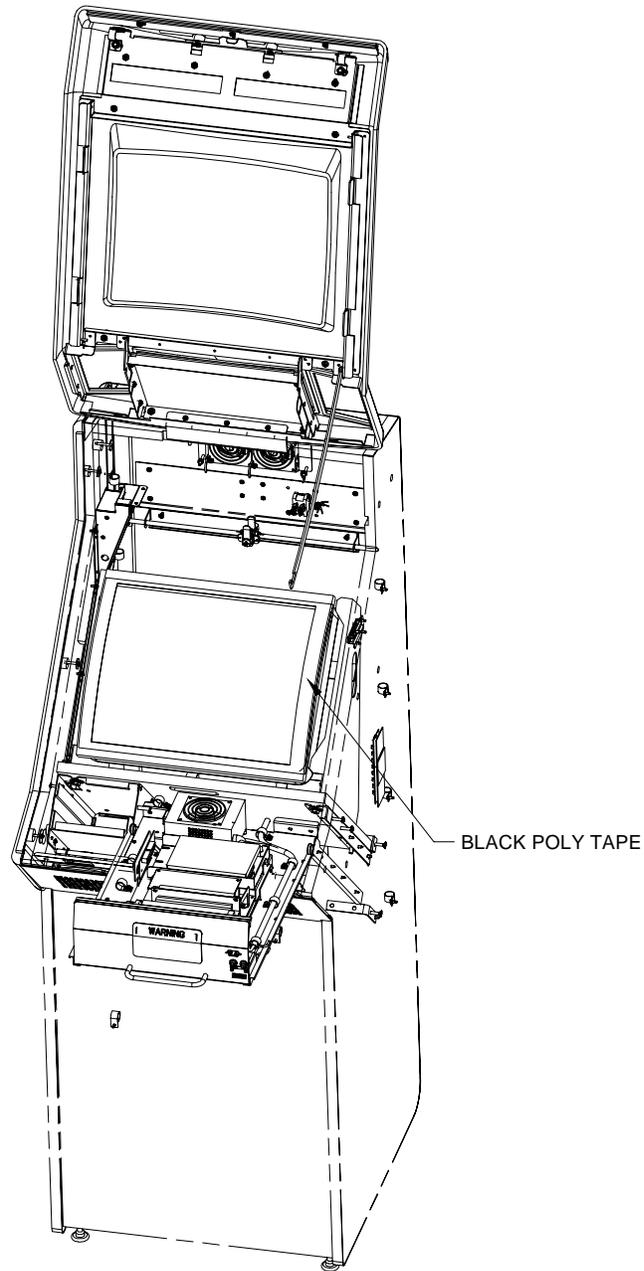

FIGURE 6 - FORCE UPRIGHT (NON-FUSION) TOUCHSCREEN ACCESS
3. Remove the black poly tape (see Figure 6) from around the edges of the old touchscreen, keeping the manner in which the tape was placed around the screen in mind.